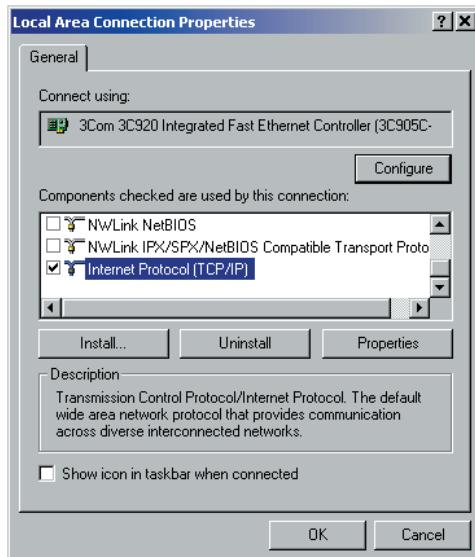

Figure 1-5. Internet Protocol (TCP/IP) Screen
Step 3: Select/double click Internet Protocol (TCP/IP) from the menu selection (Figure 1-5).
After entering the IP address and subnet mask numbers, click OK. Click OK again on the Local Area Connection Properties screen (Figure 1-5), then click Close on the Local Area Connection Status screen.